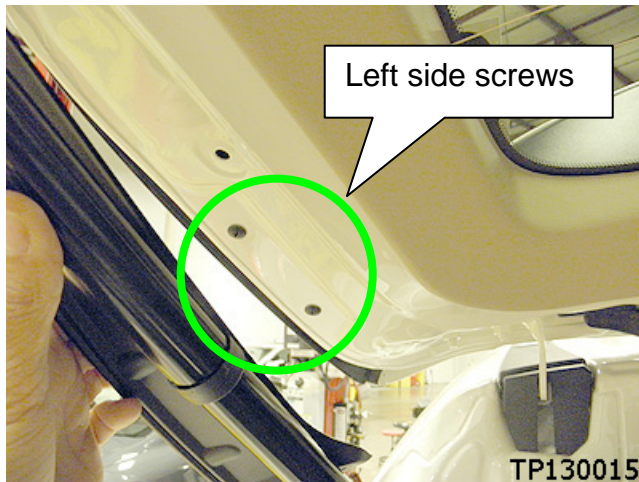

Figure 3
4. Remove the screws (2 on each side; 4 total) shown in Figure 3, located under the removed finishers.